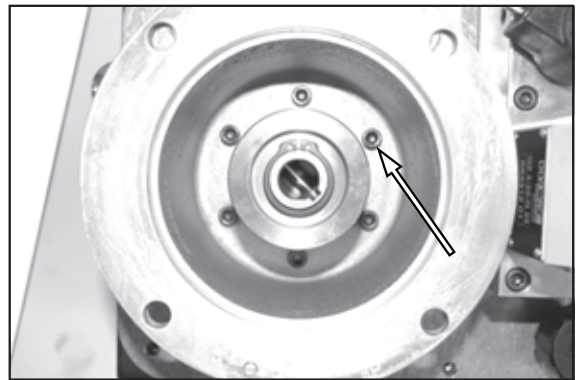

Figure 31.
2. See Figure 31. Remove the six motor mount bolts and the mount.